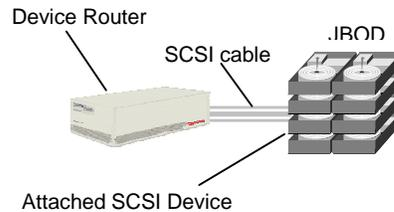

Figure 2-2 Example of Step Three Completed
5. Attach the device router to the desired SCSI device(s) as shown in Figure 2-2 below. Ensure that cable and connectors are securely fastened.